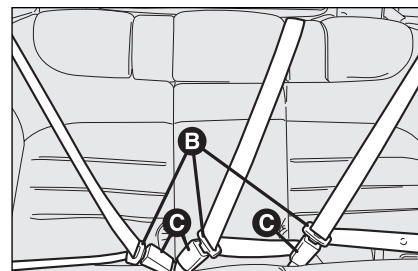

fig. 100
- for versions with rear fixed seat, before folding the seat back, fit the seat belt tabs **B**-fig. 100 into the proper buckle **C**;